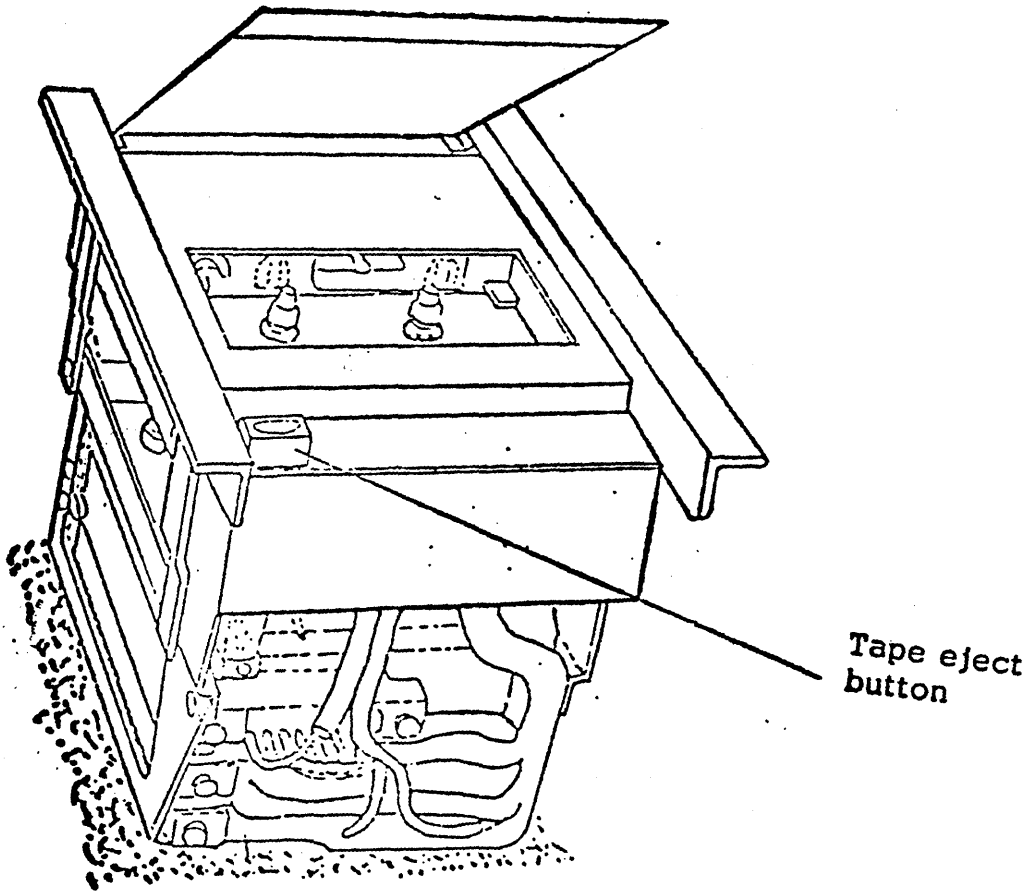

Figure 6C-2. Cassette Tape Transport
2. Press the eject button to release the cassette cartridge. {Figure 6C-2}.
### TAPE TRANSPORT LUBRICATION {Ref. Figure 6C-3}